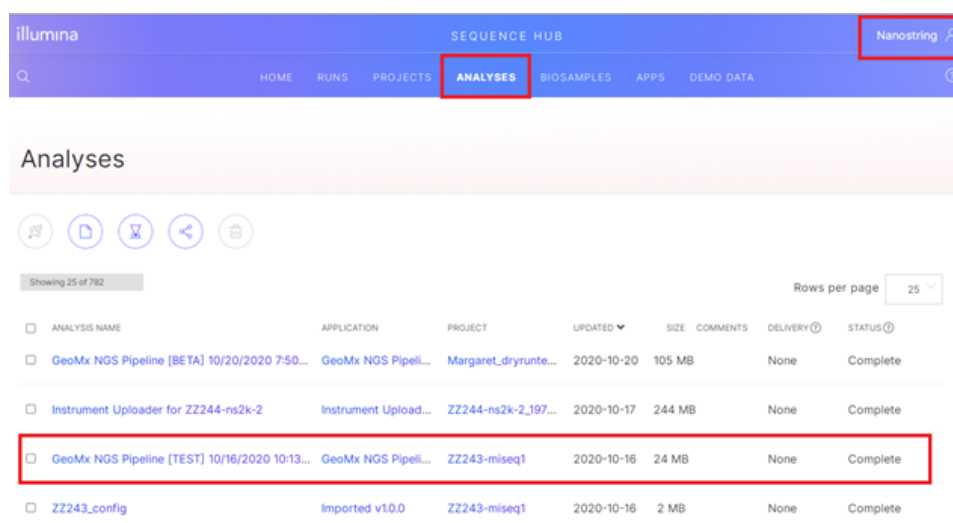

Figure 22: Analyses in BaseSpace
1. When the run is complete, log into BaseSpace, navigate to the workgroup, and select the **Analyses** tab (Figure 22).
2. Click on the analysis of interest (Figure 22).